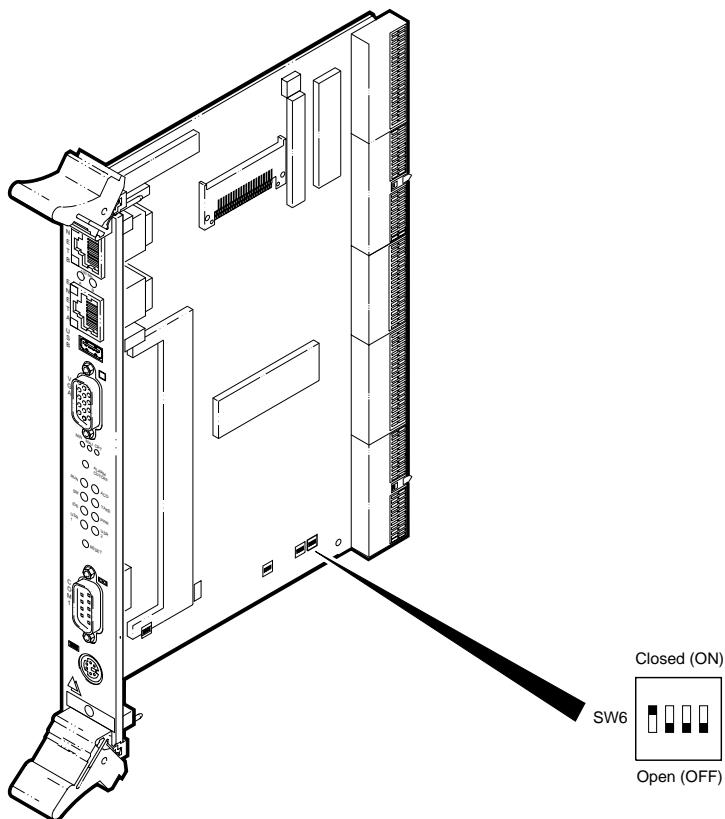

Figure C.1 Controller Card Switch Configuration
- 2 On each card, set the SW6-1 switch to the closed (ON) position. Figure C.1 shows the location of the switch.
- 2 On each card, set SW3-3, SW3-4, and SW2-4 to the closed (ON) position. Figure C.1 shows the locations of the switches.